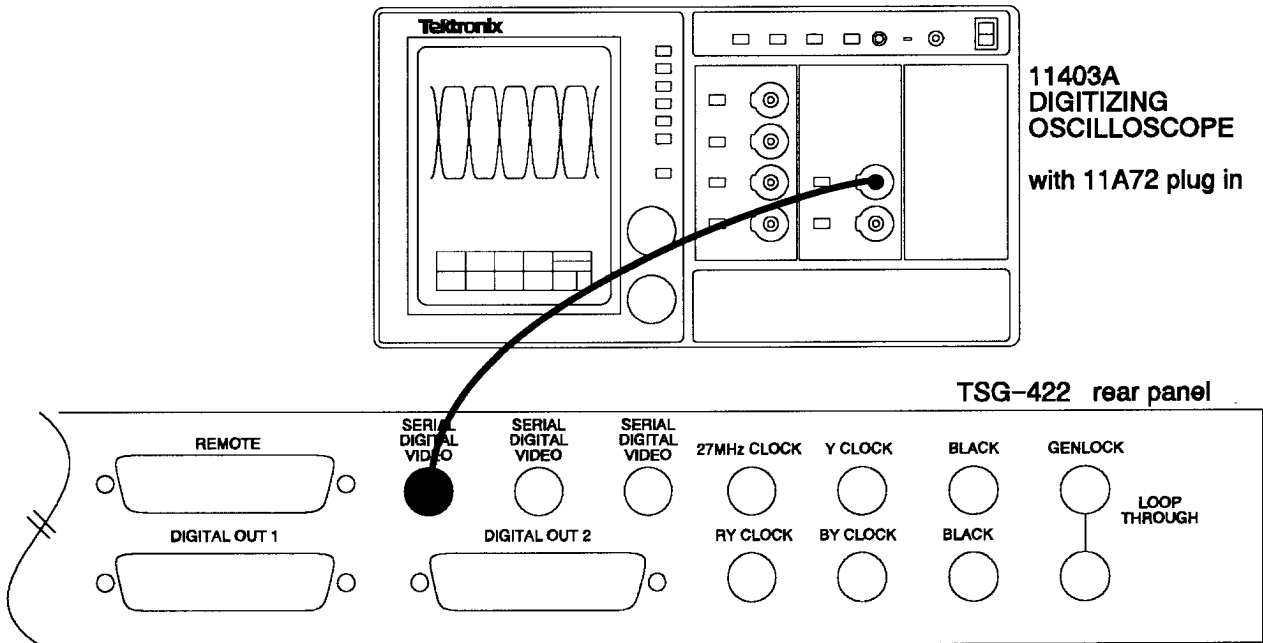

Fig. 5-14. Setup to check the Serial Digital Output Amplitude, Rise & Fall Times, Overshoot & Undershoot, and DC Level.
- Connect the equipment as shown in Fig. 5-14.
- a. Connect the equipment as shown in Fig. 5-14.